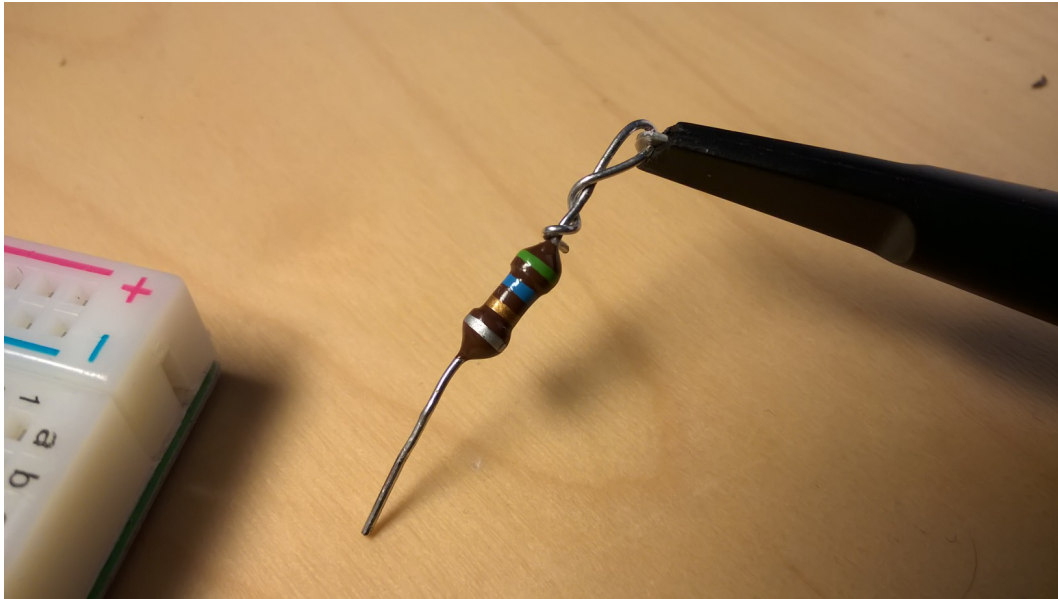

Figure 3: A 5.6- μH choke at the hook of an oscilloscope probe.
5.6- μ H inductor	Suppresses RF at the oscilloscope probe tip. Use only for to measure AF, see Figure 3.
- Hint: Connect a 5.6 μH inductor to the oscilloscope probe hook that you use for monitoring the AF input as shown in Figure 3. This way you can filter out the RF ripple from the measurement and your audio signal *looks* nice and clean.